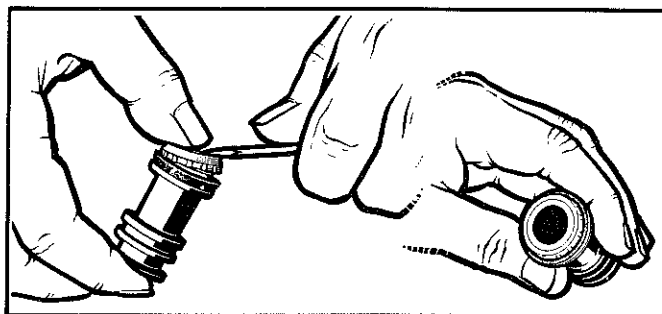

Fig. 3—Fitting plastic cup seal retainer
(4) Install one of the three identical cup seals into the shallow seal groove at the return spring end of the secondary piston, ensuring that the seal lip faces away from the "O" ring seal previously installed (refer Fig. 1). Locate part of the plastic cup seal retainer in the groove on the piston and hold in position with thumb (refer Fig. 3). Using a small pointed tool, clip the retainer into the remaining part of the groove ensuring complete location is achieved and that damage to the piston or cup seal is avoided.